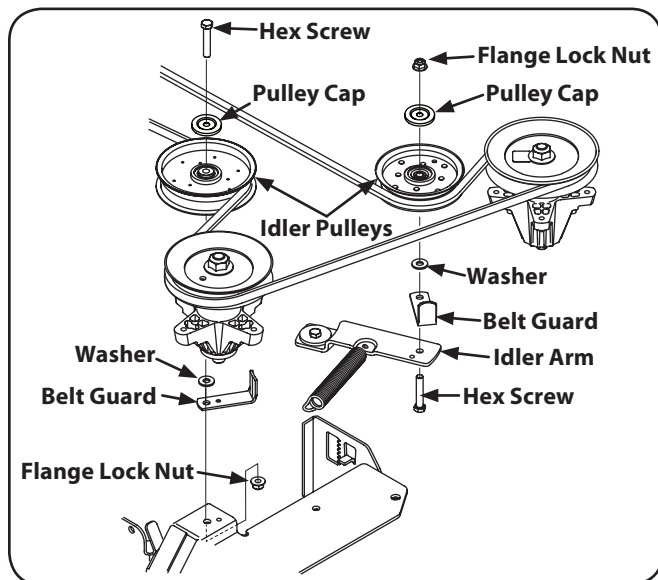

Figure 7-8
3. Remove the two idler pulleys by removing the hex screws and flange lock nuts that secure them to the deck and the idler arm. See Fig. 7-8. Do not lose any of the hardware when removing the hex screw and flange lock nut.
6. Place the belt around the idler pulleys removed in step 3 with the "V" side facing in. Once in place, reinstall all the hardware and tighten the flange lock nut to secure the assembly. See Fig. 7-8.